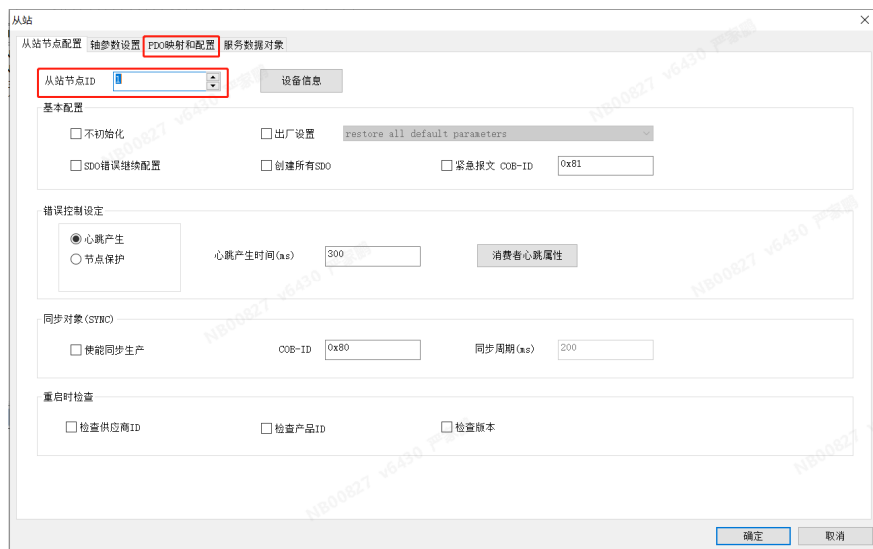

Figure 3-15 Slave Station Configuration Interface
Step 7: Double-click the slave controller icon added to the bus to enter the relevant configuration interface of the slave, as shown in Figure 3-15.